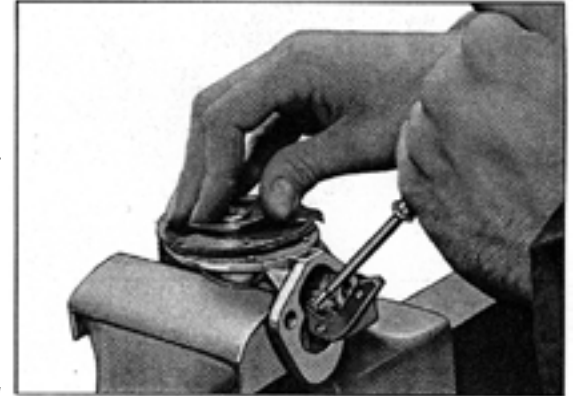

Fig. 121 – Raising Fuel Link
STEP 4. Raise fuel pump link with a screwdriver (fig. 121). Unhook diaphragm from the link by pressing down and away from the rocker arm side. Remove oil seal and retainer from diaphragm.
STEP 1. Install the oil seal to the diaphragm push rod in the following manner. Assemble oil seal spring, upper retainer, two leather seals and lower retainer with convex side out. This is extremely important in order to seal the fuel pump from any oil that might come up from the crankcase. Raise the fuel pump link with a screwdriver (fig. 121), install the diaphragm spring and hook the diaphragm pull rod over the end of the link.